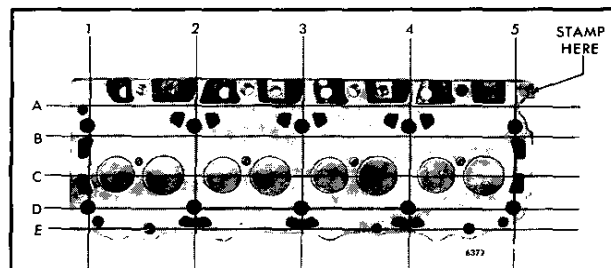
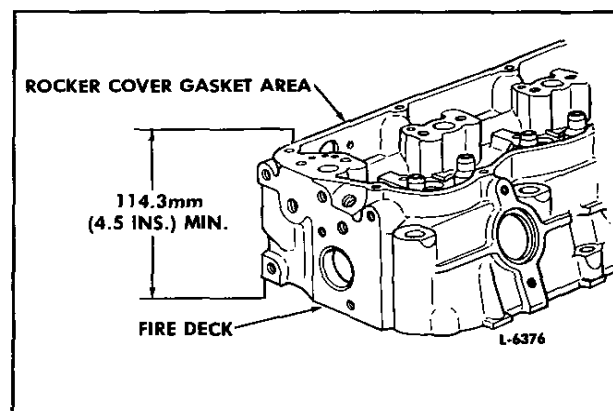

Fig. 2 - Checking Fire Deck Flatness
Fig. 3 - Fire Deck Resurfacing Specification
Check the cylinder head fire deck flatness with an accurate straight edge and a feeler gage as indicated in Fig. 2. The maximum allowable variance of the head surface is: .15mm (.006") longitudinal (positions A, B, C, D & E) and .10mm (.004") transverse (positions 1, 2, 3, 4 & 5). If the head is out of specifications it must be replaced or resurfaced. The fire deck can be resurfaced to a maximum of .38mm (.015") or a minimum fire deck to rocker cover gasket area dimension of 114.3mm (4.5") whichever occurs first (see Fig. 3).
1. Stamp the amount of stock removed on the face of the fire deck, away from the combustion or sealing areas in the location shown on Fig. 2.